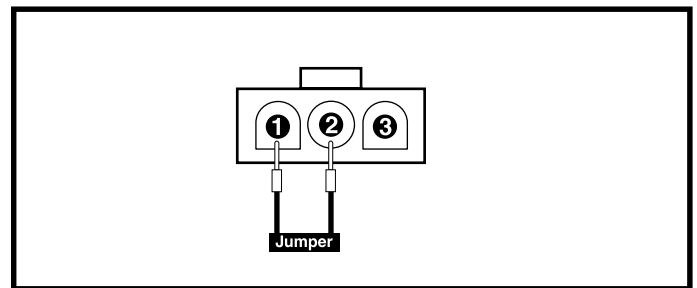

Figure 7. Connector 1c - Jumpered
10. Place a jumper in pin 1 and pin 2 of connector 1c and attempt to drive the power chair. **See figure 7.**
- *If the speed/profile LEDs still flash and the power chair does not drive*, then replace the VSI controller (1) and retest the system.
- *If the speed/profile LEDs stop flashing and the power chair drives*, then replace the charger inhibit harness (5) and retest the system.